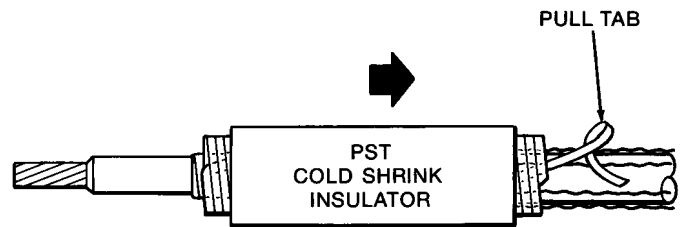

Figure 2
1. Slide longer PST Cold Shrink insulator onto cable "X" jacket and the shorter PST onto cable "Y" jacket directing pull tabs away from cable ends as shown in figure 2.